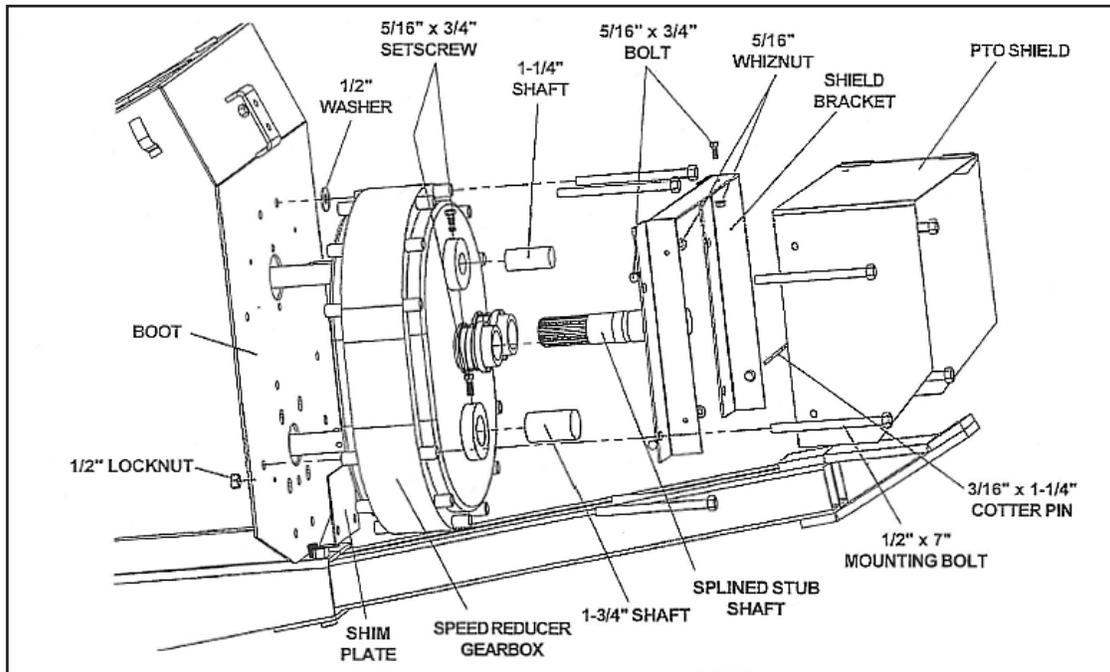

Figure 3
See Figures 3, 4, and 5.
1. Face the flat side of the speed reducer gearbox to the front plate of boot. Slide the speed reducer gearbox onto flight shaft and gearbox shaft until the flat surface of the gearbox touches the front plate of boot. Make sure that the keys are in the right place between shafts and gearbox, and the mounting holes in the gearbox are lined up with the holes in the boot (Figure 3).